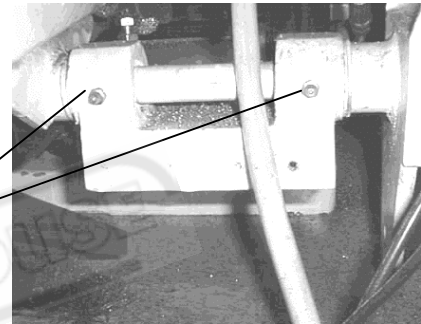

Fig.23 C
Occasionally lubricate the pivot using waterproof grease at the fitting (C) (fig 23)